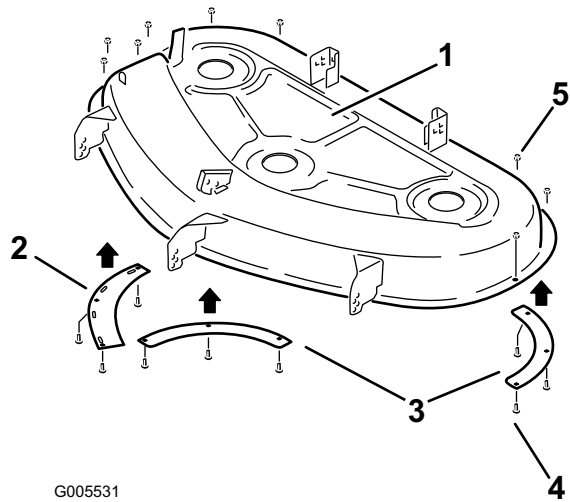
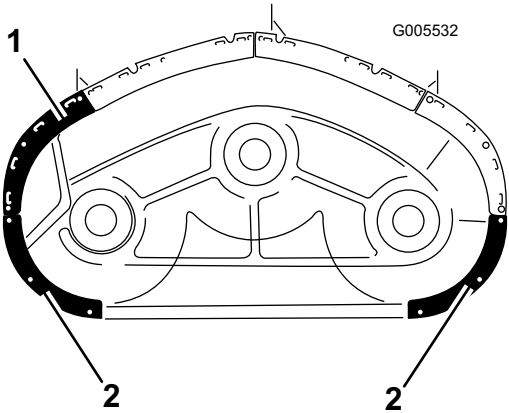

Figure 1
Figure 2
1. Install the front end baffle to the mower as shown in Figure 1 and Figure 2. Use 3 bolts (1/4 x 3/4 inch) and 3 locknuts (1/4 inch) to secure the baffles to the mower.
2. Install the two rear ring baffles to the mower as shown in Figure 1 and Figure 2. Use 6 bolts (1/4 x 3/4 inch) and 6 locknuts (1/4 inch) to secure the baffles to the mower.